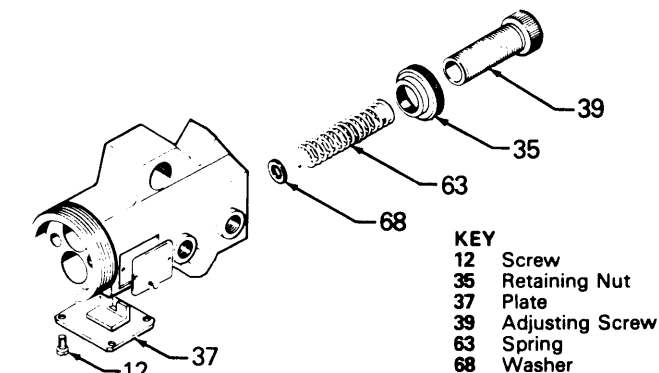

Fig 7
Fluid Needle Removal (See Figs 7 and 8)
Install the plate (37) with the four screws (12). Install the adjusting screw (39), retaining nut (35), spring (63) and washer (68). Set adjusting screw (39) to its original position. See Fig 7.